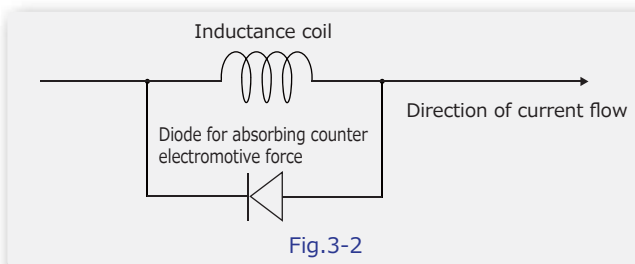

Fig.3-2
- \* A protection circuit like that is Fig.3-2 is usually used to suppress rush current of charging battery.